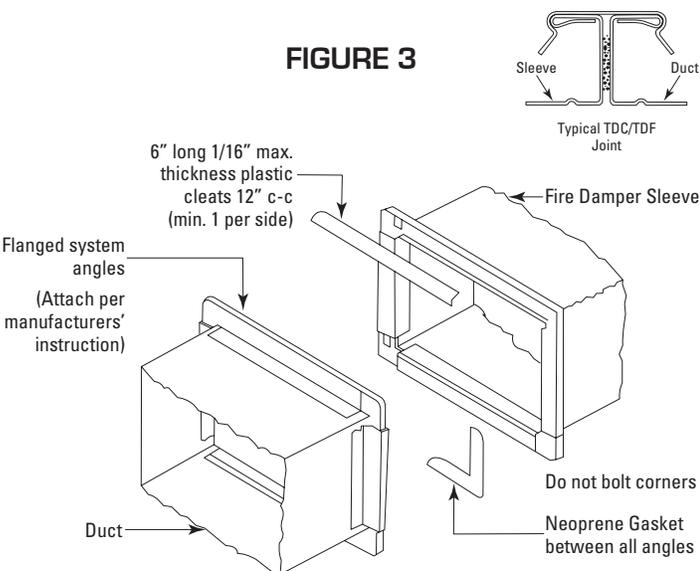

FIGURE 3
2. Transverse joints illustrated can be applied as top and bottom joints with Drive Slip shown in Figure 3 - side joints in duct heights up to 20 inches (508mm).
Flanged connection systems manufactured by Ductmate, Ward and Nexus are approved as breakaway connections when installed as illustrated in Figure 3.